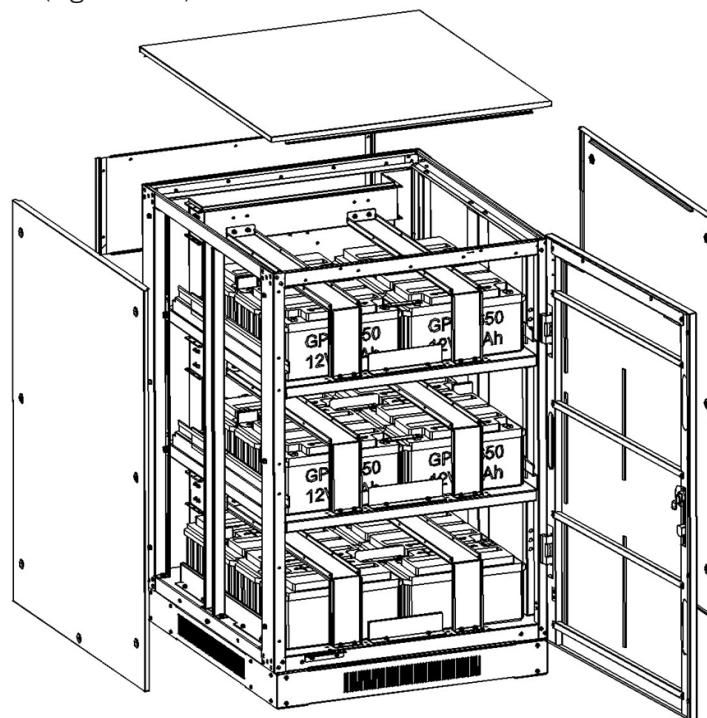

Figure 5-22
11. Reinstall all covers and screws (Figure 5-22).